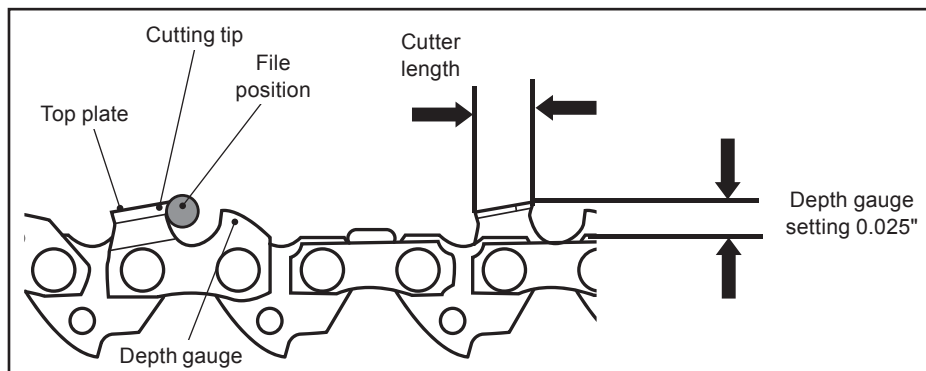

Fig. 67
9. Use a depth gauge measuring instrument to check the height of the depth gauge. Depth gauge measuring jigs are available from most reputable tool merchants (Fig. 67).